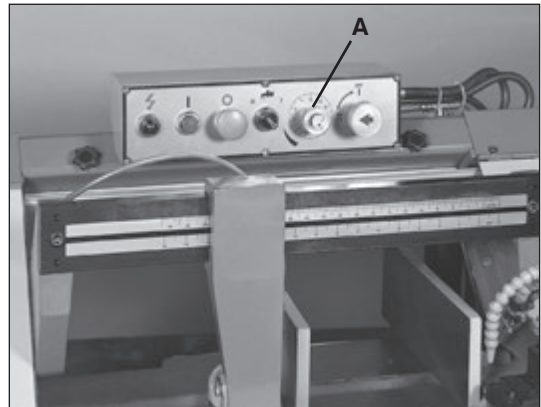

Fig. 6
When the hydraulic regulating micro switch (A) Fig.6 is turned clockwise as far as it will go, the saw frame will not move down. By turning the feed control valve counter-clockwise, you regulate the flow of oil from the cylinder and determine the speed at which the saw frame will lower and the blade will feed through the work. Too many factors are involved to make tabulated data practical on feed rates. As a general rule, an even pressure without forcing the blade gives best results. Avoid forcing the blade at the start as this may shorten blade life and produce a bad cut. Inspecting the chips while the cut is being made will indicate whether the feed rate is correct. Fine powdery chips indicate a feed rate which is too light. The teeth are rubbing over the surface instead of cutting. Burned chips indicate excessive feed which causes the teeth to break off as the blade overheats. The ideal feed rate is indicated by chips that have a free curl, this will give the fastest cutting time and longest blade life.